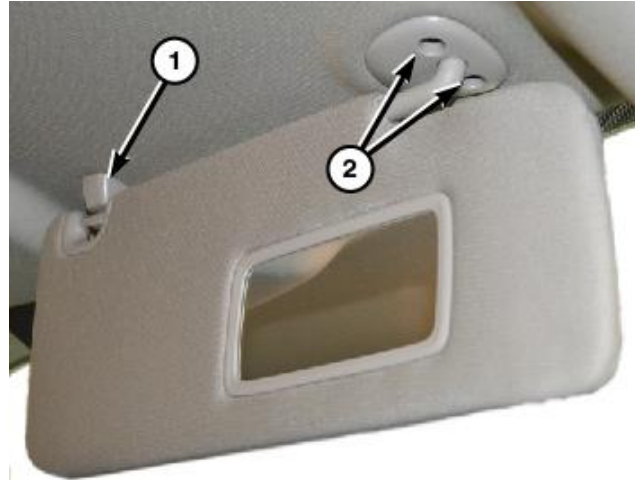

Figure 27 – Visors
18. Separate the visor from the support (1) then remove the screw and remove the visor support (Figure 27).
19. Remove the visor screws (2) then remove the visor (Figure 27).
41. Position the visor supports (1) onto the headliner and install the screws into the mounting clips (Figure 27).
43. Position the visor to the headliner and install the screws (2) that secure the visor to the roof panel. Tighten the screws to 6 N·m (53 in. lbs.) (Figure 27).